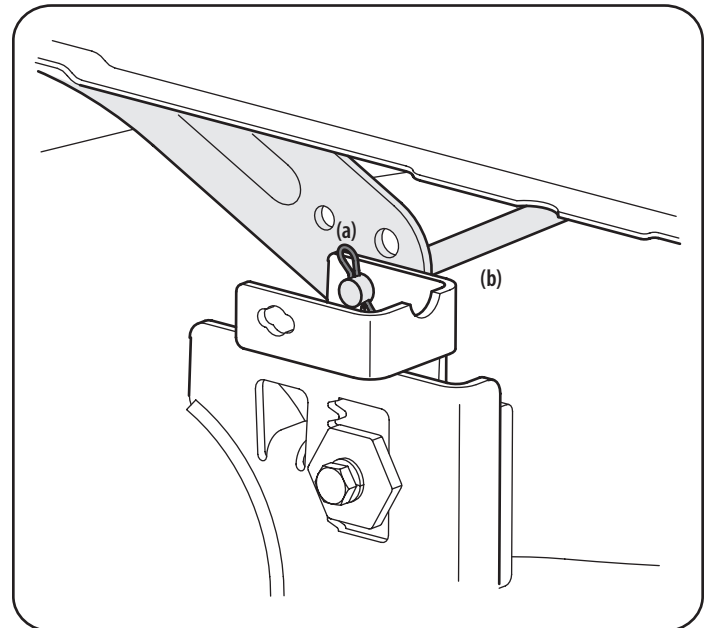

Figure 12
5. Looking at the cutting deck from the left side of the tractor, locate the bow-tie pin (a) that secures the deck support rod (b) on the rear left side of the deck. See Figure 12. Remove the bow-tie pin (a) that secures the deck support rod (b), and carefully remove the deck support from the deck lift arm.